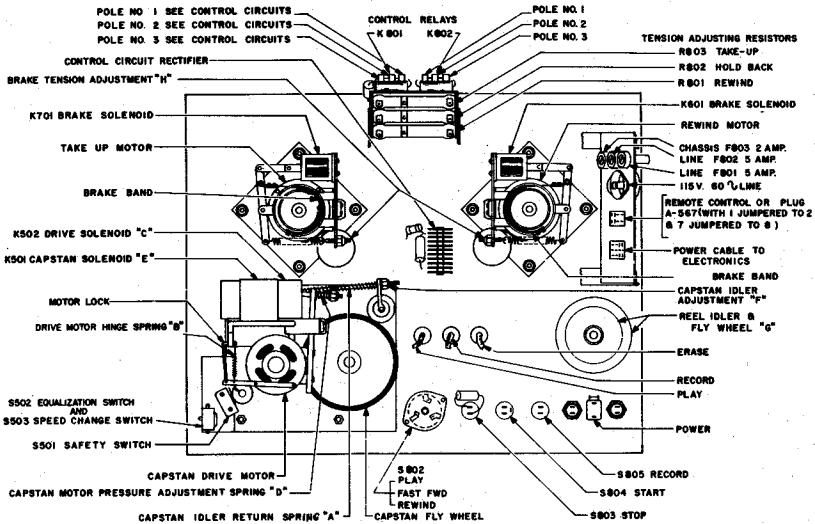

Fig. 5 Bottom View, Tape Transport
9. The capstan speed should be checked with the stick-on stroboscope provided. Before checking, let drive unit run for at least five minutes to warm up lubricant in the capstan assembly. If the lubricant is stiff, the additional drag will cause greater compression of the rubber tire and the capstan will therefore run slightly slow until warmed up. Place stroboscope on capstan shaft with the sticky side down and view rotating shaft under 60 cps light. If the speed is not correct the spokes will appear to rotate. Slight speed changes can be realized by change in capstan drive motor pressure. This adjustment is at spring D, Fig. 5, on the motor solenoid draw bar. If the adjustment is in the proper range, increasing pressure will slow the capstan, decreasing pressure will speed the capstan. Adjust for no rotation of the stroboscope spokes. (If drive motor pressure is too light, increasing pressure will speed the capstan. In this range the tire pressure is inadequate for stable operation, and the pressure should be increased until increase in pressure reduces capstan speed.)
The drive system employs three motors. Two induction motors with solenoid operated brakes are used for takeup and rewind. These motors are shown in Fig. 5 and require no service attention! The torque of these two motors is adjusted at the factory by means of resistors R801, R802 and R 803, and should be left alone unless shipping damage to the resistors has occurred. Both motors are adjusted for a tension of 5 to 6 ounces pull on the reel hub in Play. On top plates for  $\frac{1}{2}$  inch or 1 inch wide tape these tensions are increased to 10 to 16 ounces. R802 is adjusted for the maximum hold-back tension during Fast Forward and Rewind which will still allow the tape to accelerate when starting with a full reel.
The mechanism of the capstan idler is operated by solenoid "E" in Fig. 5 and is returned by Spring "A." Capstan idler pressure is set so that it will deform or break the tape if the tape is stopped with the hand while the machine is running. This pressure is adjusted at point "F" in Fig. 5.
The reel idler is shown in Fig. 5 at "G." This shaft has two single shielded ball bearings. Factory lubrication is for the life of the bearings. Should these bearings require servicing or replacement the complete reel idler assembly should be exchanged for a factory reconditioned unit. The extremely low pulley run-out of this assembly is achieved by a final finish cut being taken while running on its own bearings after final assembly. Under no circumstances should the shaft be removed from the assembly, since in all probability the relationship of parts will be lost. This may result in the introduction of
The mechanical brakes on the rewind and takeup motors ordinarily require no adjustments. Should trouble occur which appears to be due to faulty braking, the tensions may be adjusted. The only adjustment on the brakes is performed by adjusting tension at "H" in Fig. 5. If machine throws a loop of tape on stopping, the trailing reel brake tension is too low, or if it breaks the tape the tension is too high. However, unless tampered with, the adjustment should be permanent until such time as the brake bands wear out.
To test for proper capstan idler pressure, hold the tape while the machine is running in the Play position. The idler pressure should be sufficient to deform or break the tape. The pressure can be increased by the adjustment at Point "F" in Fig. 5.